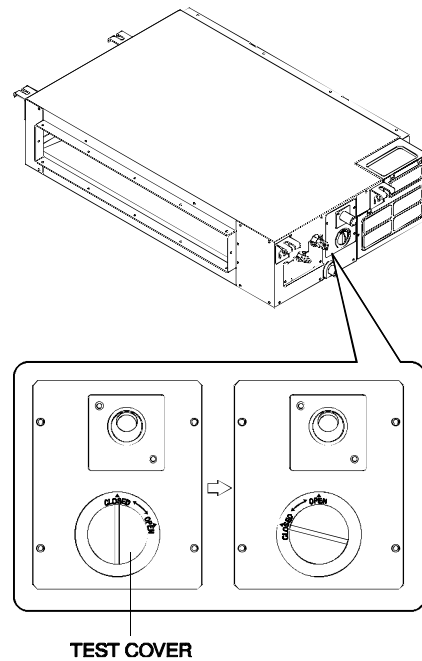

Fig. 15 – Check the Bends and Joints for Leakage
1. Remove the test cover by rotating it counter-clockwise as shown in Fig. 15.